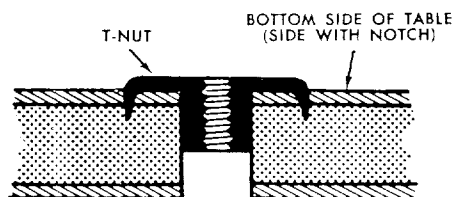

Figure 8b
4. Lay table front on floor top side down. Hammer five T-nuts (from loose parts package) into 5/16 diameter holes from bottom side of table. See figure 8b.